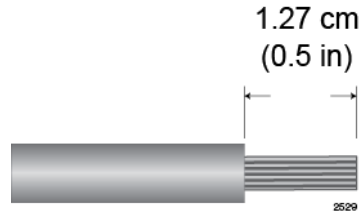

Figure 131. Stripping the Power Wires
1. Prepare adequate lengths of two stranded 8 AWG power wires by stripping them as shown in Figure 131 on page 205.